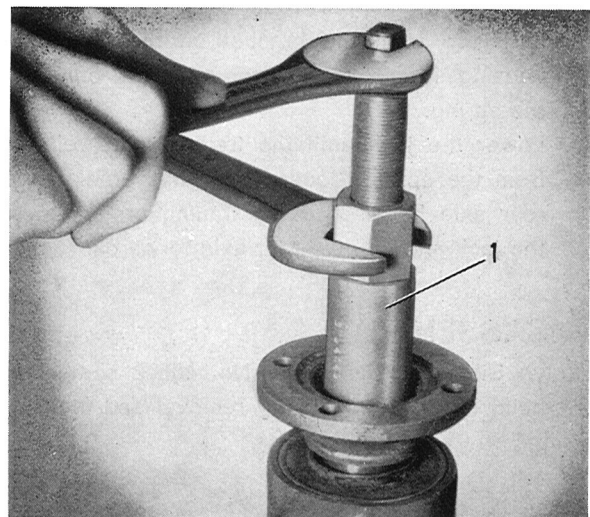

Fig. 4-152. Flange installation
4. Press on the flange with press tool 1845, see Fig. 4-152. Install the washer and nut. Tighten the nut to a torque of 280—300 Nm = 28—30 kpm = 200—220 lb.ft.